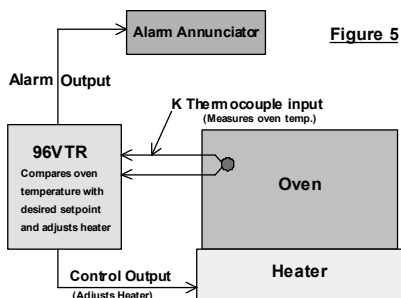

Figure 5
(Refer Fig.5). The aim is to maintain an oven temperature of 500°F. The controller monitors the oven temperature via the thermocouple. The controller compares the actual temperature (PV) to the desired temperature (500° setpoint SV) and throttles the heater as needed to maintain 500°F. If the oven temperature reaches too high, the controller's alarm output can trigger an audio or visual alert. The alarm contact can also be used to switch on/off an external device such as a master switch or cooling fan. In this example, the alarm will trigger an annunciator at 600°F. To program the controller to perform the task described above, refer to the steps below. The parameters not listed below are either inconsequential with regard to this example or they will not appear on the controller display due to the controller configuration. Use the programming level sequence shown below (i.e., Level 3 then Level 1. etc.)